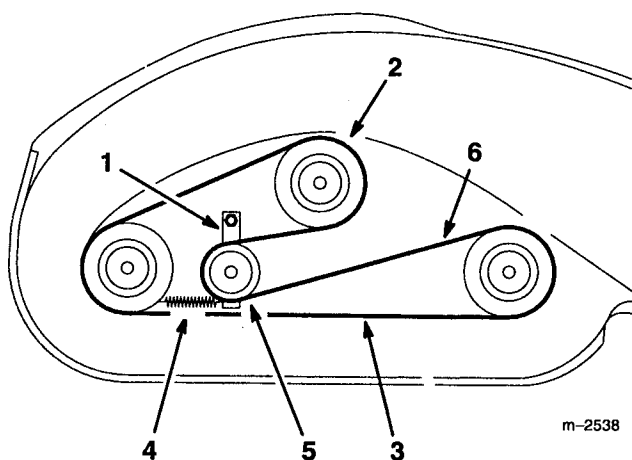

Figure 24
2. Grease the fittings on the three spindle bearings (Fig. 24).
3. Grease the pivot plate fitting (Fig. 24).
3. Disconnect the idler arm spring to relieve tension on the idler arm and idler pulley, then remove the worn deck belt (Fig. 24).
4. Install the new deck belt around the spindle pulleys, belt guide, the idler pulley, and in the lower groove of the center spindle pulley (Fig. 24).
5. Connect the idler arm spring (Fig. 24).